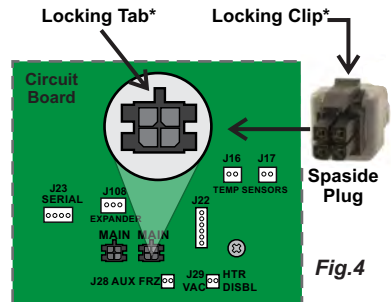

Fig.4
**Step 4** - Connect spaside to an empty connection marked MAIN. (Fig.4)